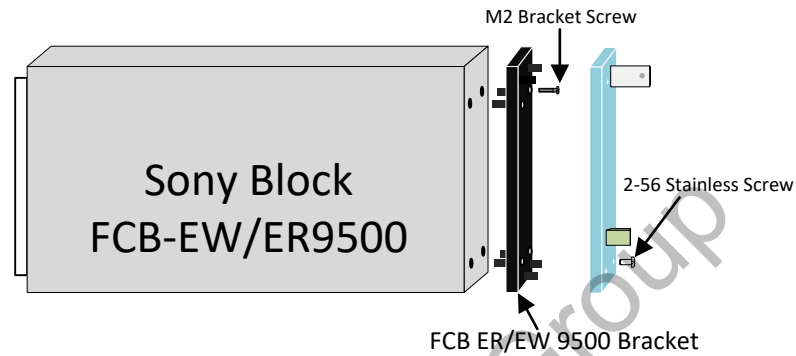

Figure 2. FCB-EW/ER9500 Installation
- Attach the DP-801S to FCB EW/ER-9500 using the 2-56 stainless screws. Figure 2 shows the alignment of the bracket and DP-801S board.